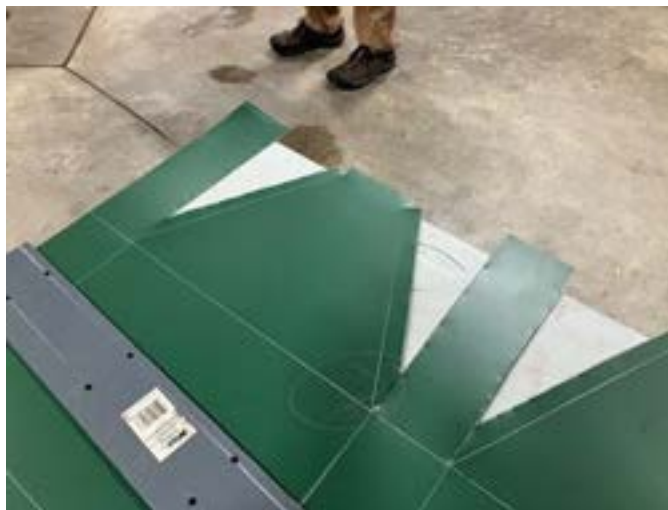
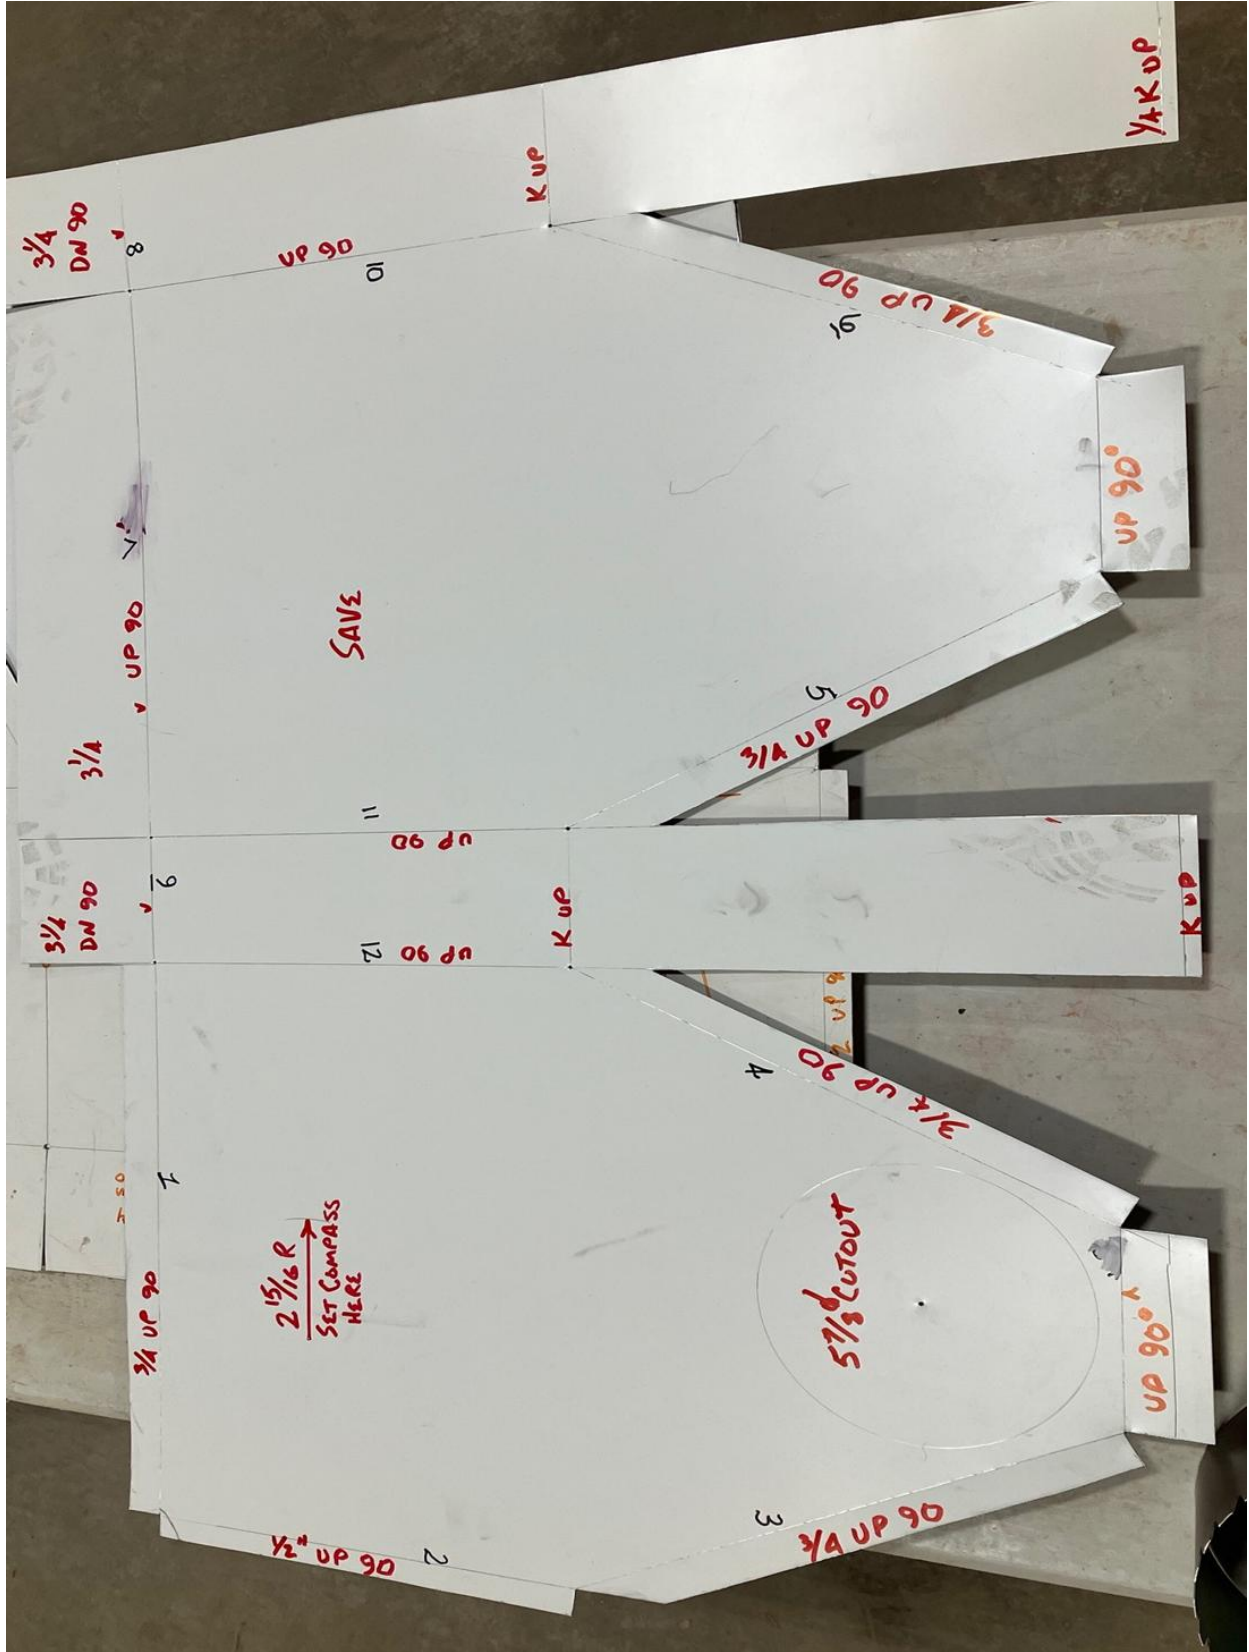

Figure C-7. Match Plenum Blank to Pattern.
Figure C-20. Plenum Pattern With Bend Instructions.
2. Confirm plenum cut stock matches the required pattern dimensions (see Figure C-20 at the end of this appendix for a full-size pattern).
2. Use a punch and/or awl to make indents - using a hammer, mallet, or by hand - as indicated on the pattern (see Figure C-2 and Figure C-20). Make sure to mark the center of the exhaust collar location (see Figure C-3 and Figure C-20).
2. Use a straight edge and awl to scribe the bend lines from punch mark to punch mark (see Figure C-20).
3. Use a pencil to highlight bend lines (see Figure C-4 and Figure C-20).
1. Follow the pattern cut lines and remove any unneeded material using a metal shears or snips (see Figure C-5 and Figure C-20).
3. Verify the cut plenum blank matches the pattern (see Figure C-7 and Figure C-20).
1. Using the proper bending tool (based on length of the bend), bend the plenum by the numbered sequence (see Figure C-8; see also Figure C-20 for additional reference).
1. If not completed in Section C.2.1, use the previous punch mark to scribe the exhaust pipe location using a compass on the plenum body (see Figure C-20).